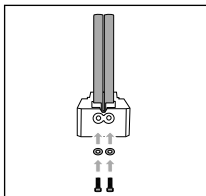

Fig. 3
- ◆ Place a washer **13** into the recess of cutting guide element A **9** and screw a screw **12** with the hex key **15** into the guide rods **7** (see fig. 3).